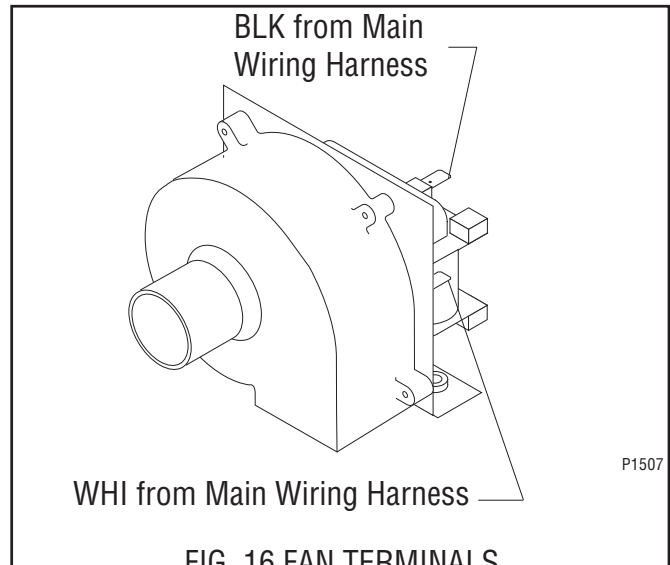

FIG. 16 FAN TERMINALS
4. Refer to Fig.16 and connect the wires to the new fan.